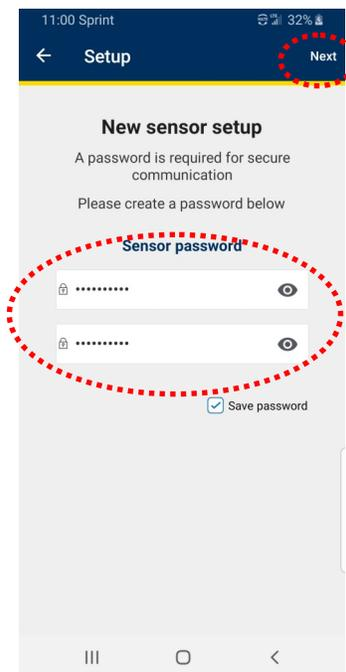

Figure 18
3. Select **Next** (see figure 18).